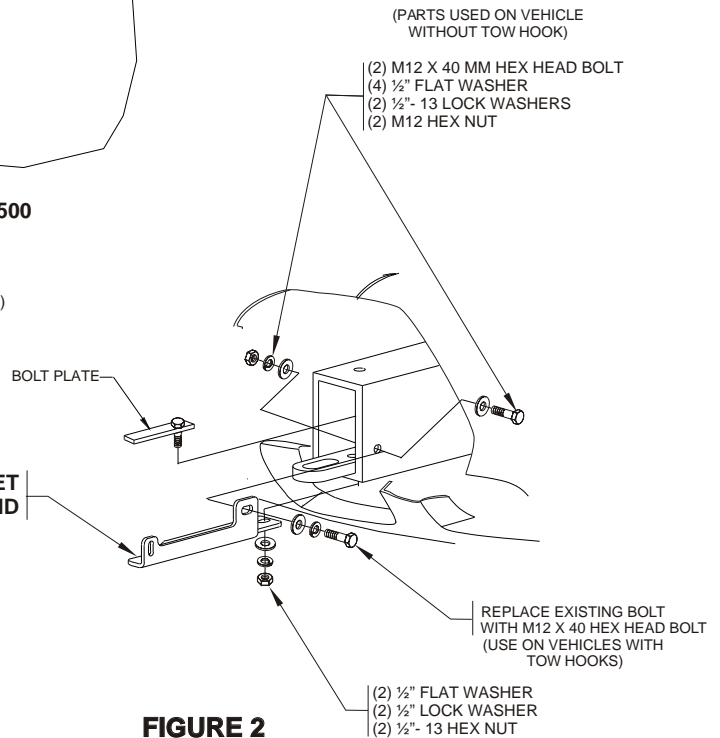

FIGURE 2
- STEP 4. FOR 1500HD/2500LD, 2500/3500 HD: From underneath the vehicle on the driver side, remove the tow hook bolt on the outside of the frame. Slide bolt plate in through the end of frame rail and allow bolt to drop through the large hole closest to the end of the frame. SEE FIGURE 2. Place bottom mount bracket up to bottom of frame and secure to bolt plate with flat washer, lock washer and hex nut. Replace factory tow hook bolt with